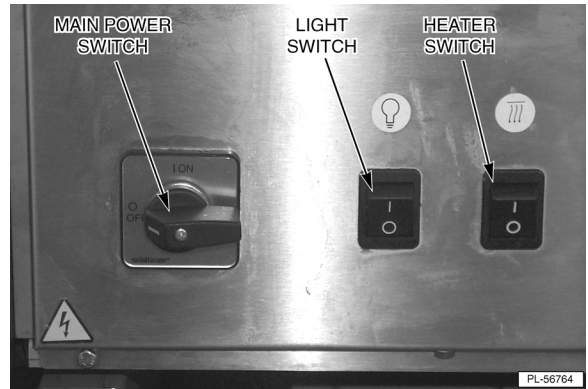

Fig. 17
2. Turn the main power switch to the on position (Fig. 17).
3. Turn on the light switch (Fig. 17).
4. Turn on the heater switch (Fig. 17). You will hear a beep and see numbers scroll as the controller powers up.